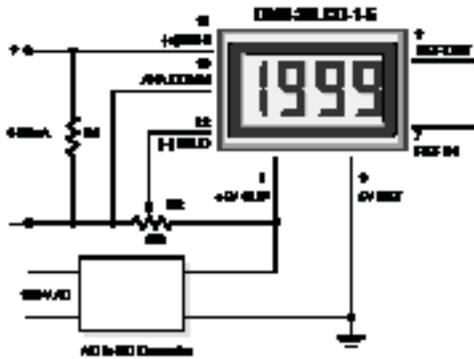

Figure 7. 4-to-20mA Current Loop Operation (5V-Powered Models)
5. **Process Control (4-to-20mA) Measurements:** In many common process-control applications, a 4-to-20mA current loop is used to transmit information. Because DMS-20LCD meters have such high input impedance, a simple shunt resistor across the meter's input can be used to convert the loop current to a voltage. See Figure 7. The value of the shunt resistor is a function of the scaling requirements of the particular application and can be calculated using the following equation:
To calibrate the circuit of Figure 7, perform the following: